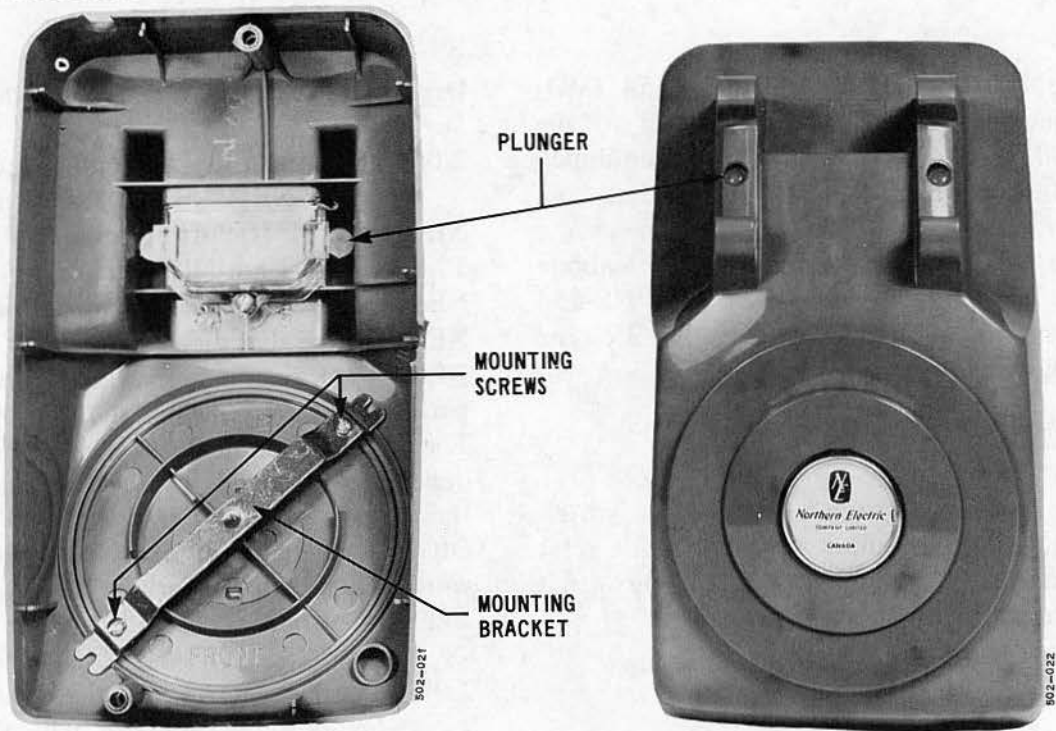

Fig. 5 — NE-500 Type Telephone Set Housing Equipped With an NE-95B Apparatus Blank
2.01 The NE-500 and NE-554 type telephone sets are equipped with a rotary dial. The dial may be replaced in the field, with an NE-95B apparatus blank, if the telephone set is converted for manual operation. (Fig. 5 and 6.)